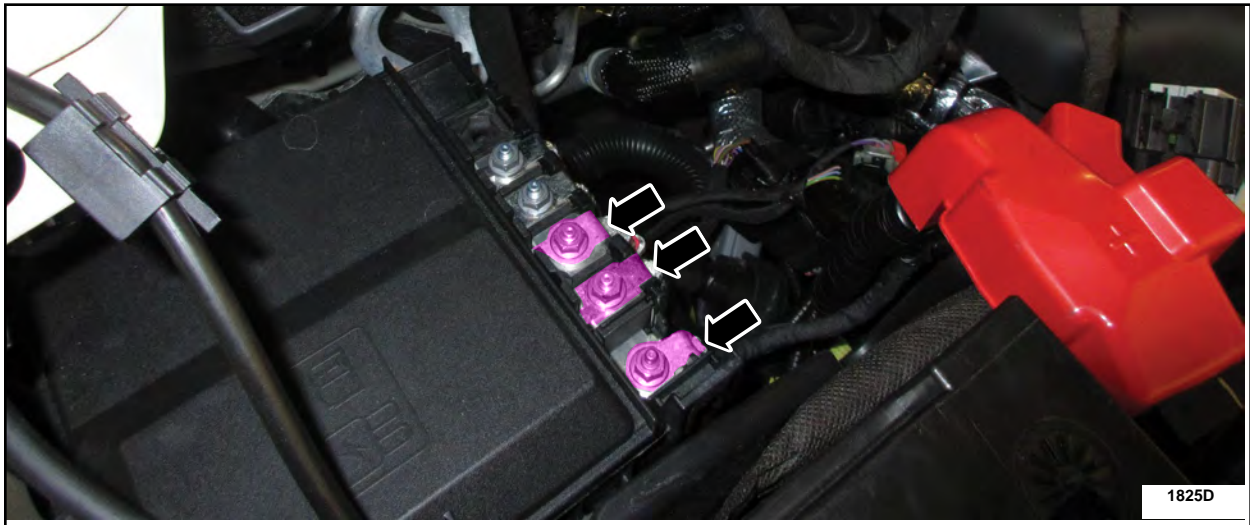

FIGURE 46
88. Install the three cables and nuts to the battery junction box, install the cover. See Figure 46.